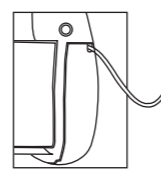

Fig. 3
- Pull out the cover and take out the charging wire (Fig. 3).